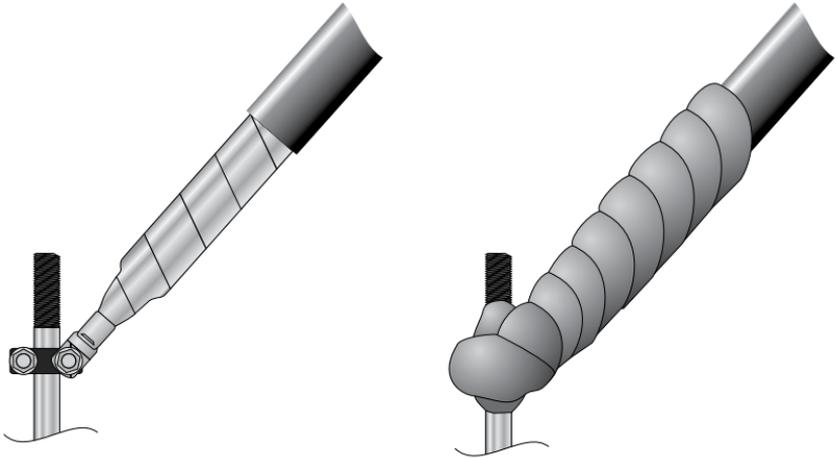

Figure 21.
7. Connect the crimp lug to the earthing system using the supplied U-Bolt earth clamp if necessary [Figure 21]. Ensure the connection is aligned correctly and tightly secured using a 17 mm spanner, socket or shifting spanner.
8. Use the waterproofing mastic tape to completely cover all exposed conductive areas of the lower termination and to seal the termination from moisture ingress where it connects to the earthing system [Figure 21].